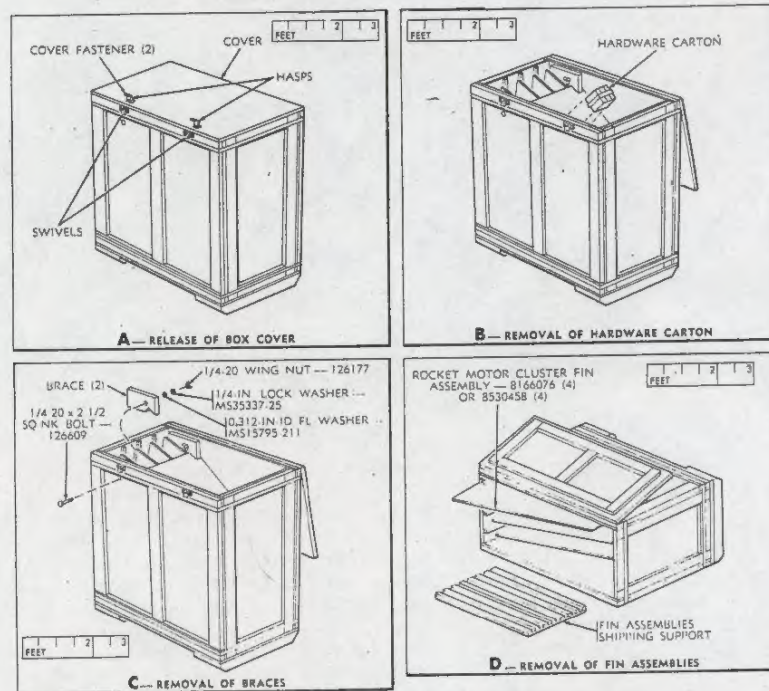

Figure 3-6. Rocket-motor cluster fin assembly container.
- (4) The rocket-motor cluster fin assembly is received in a wooden box that has a gross weight of approximately 700 pounds (fig 3-6). The box contains the four rocket-motor cluster fins.